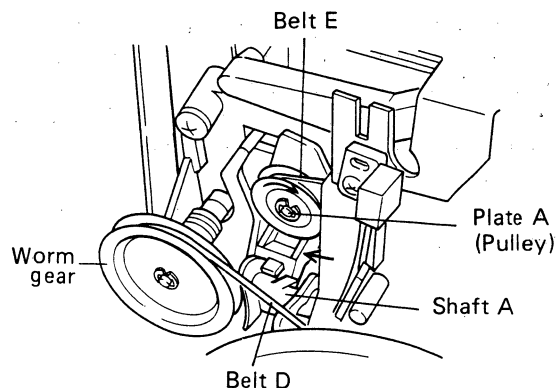
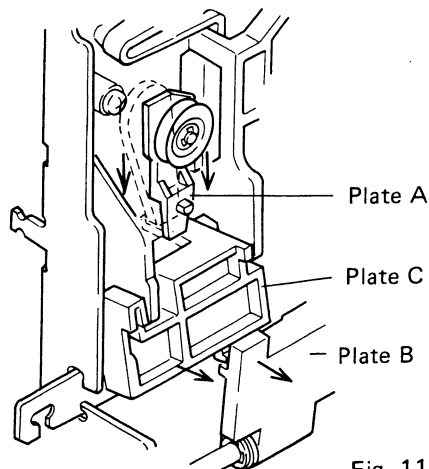

Fig. 8
Fig. 11
8.2 AUTO-STOP OPERATION (Fig. 8 ~ Fig. 11)
6. When plate A is pushed down, plate C is moved thru plate B, and the operation buttons are unlocked. (Fig. 11)